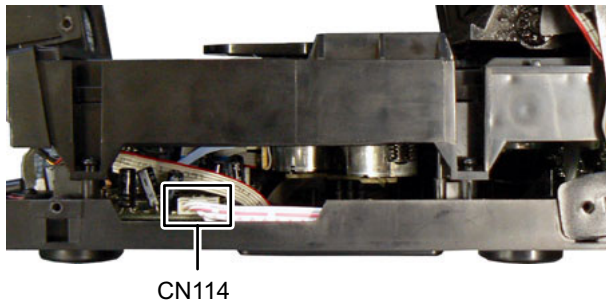

Fig.5
3.1.4 Removing the Front cabinet (See Fig.5 to 7)
- (1) Disconnect the connector wire from USB board connected to connector CN114 of the CD board. (See Fig.5)